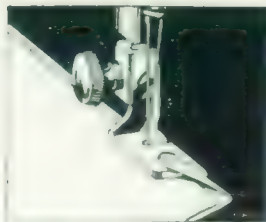

Fig. 40. Making a Hemmed Seam (First Operation).
See Figs. 40 and 41.
1. When making this seam, the garment must first be fitted and edge of material trimmed, allowing for about $\frac{1}{8}$ inch seam. Insert the two edges of material, right sides together, in hemmer in same manner as a single hem, as shown in Fig. 40. If material is bulky, place edge of upper piece of material about $\frac{1}{8}$ inch to left of edge of under piece.